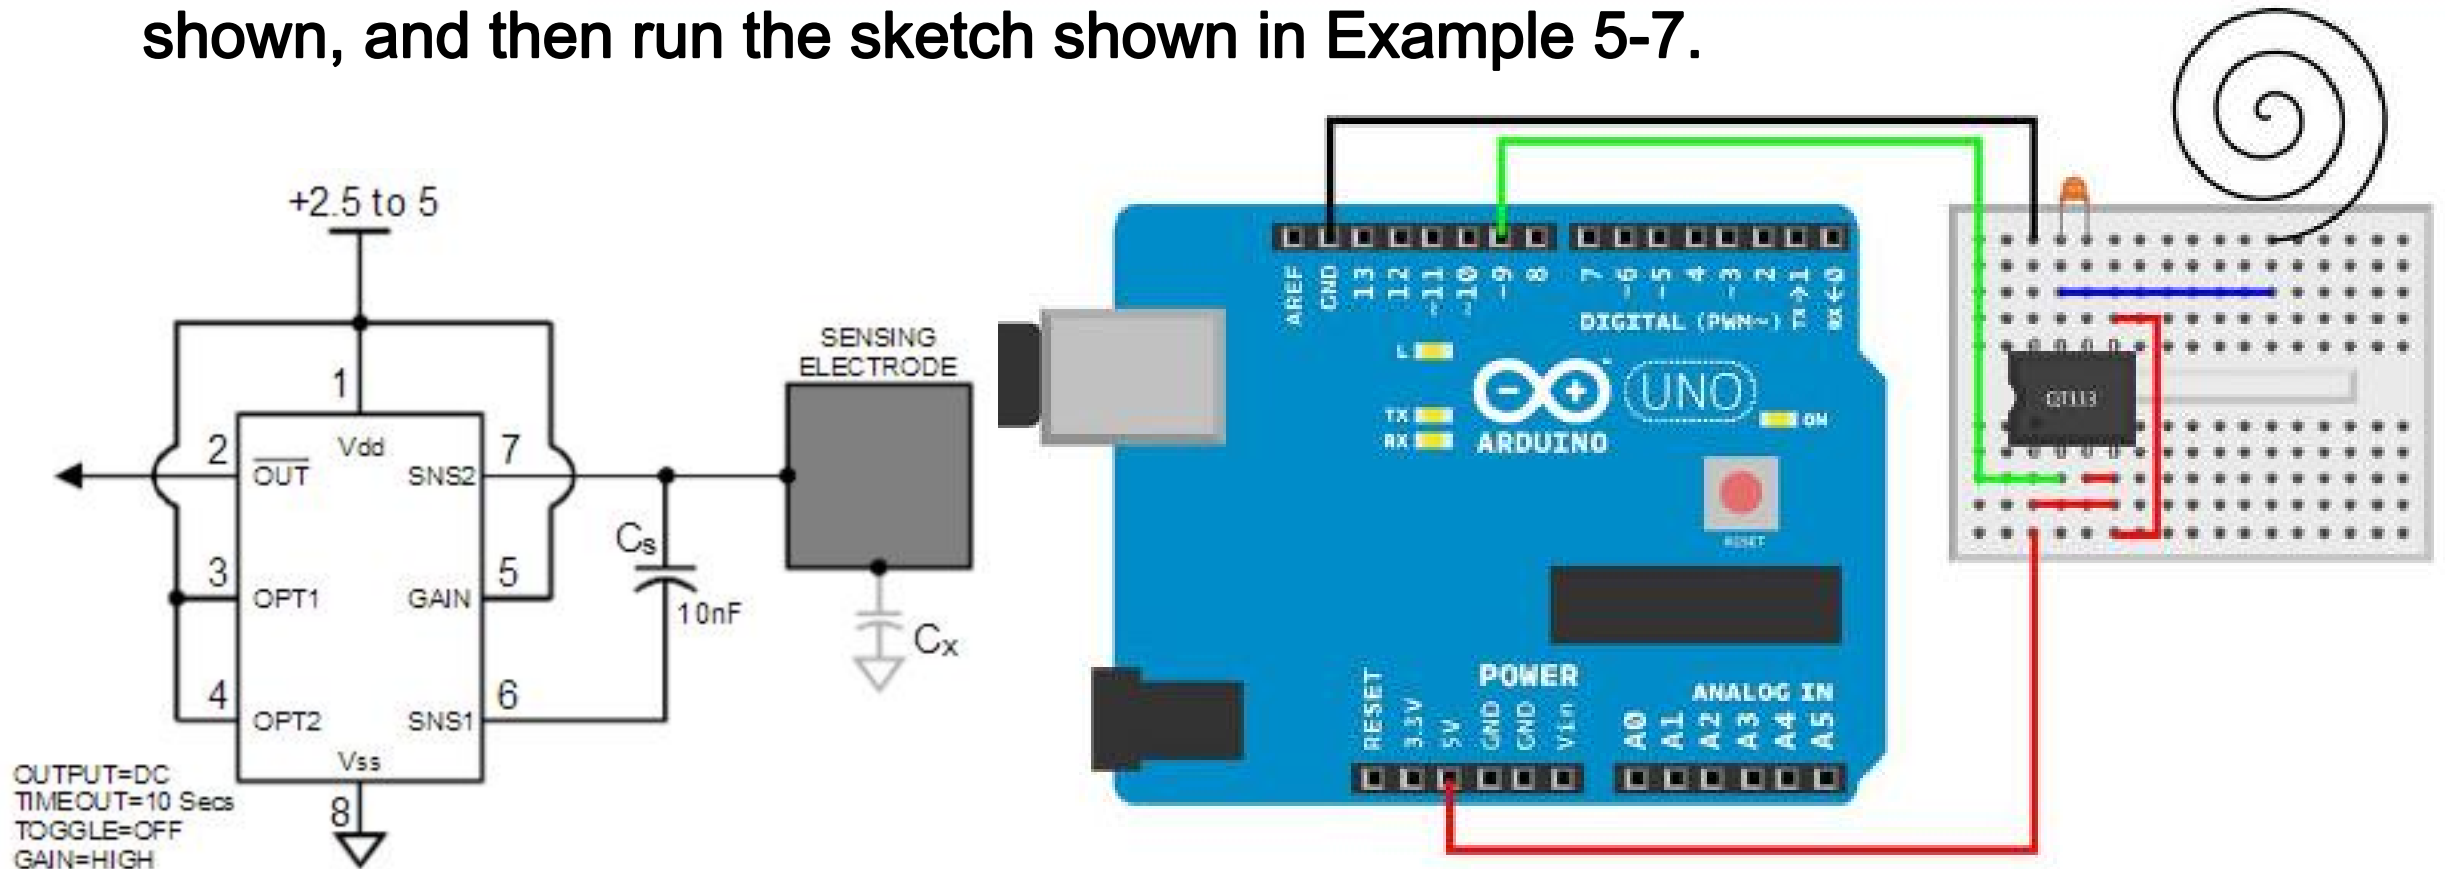

Figure 5-13. QT113 circuit for Arduino
- Figure 5-13 shows the circuit for using the QT113 with Arduino. Hook it up as shown, and then run the sketch shown in Example 5-7.